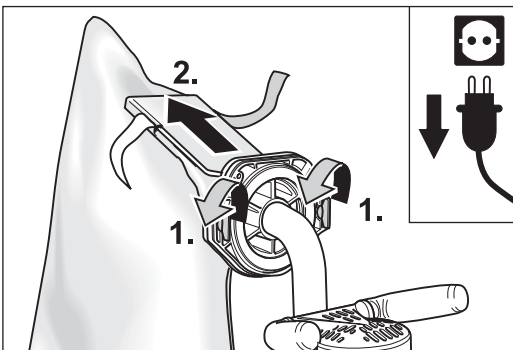

Fig. 18 Open both quick-release fasteners (1.) and remove the dust bag (2.).
- 6 Open the quick-release fasteners on the locating flange (Fig. 18, 1.).
- 7 Slowly pull the dust bag off of the locating flange (Fig. 18, 2.).